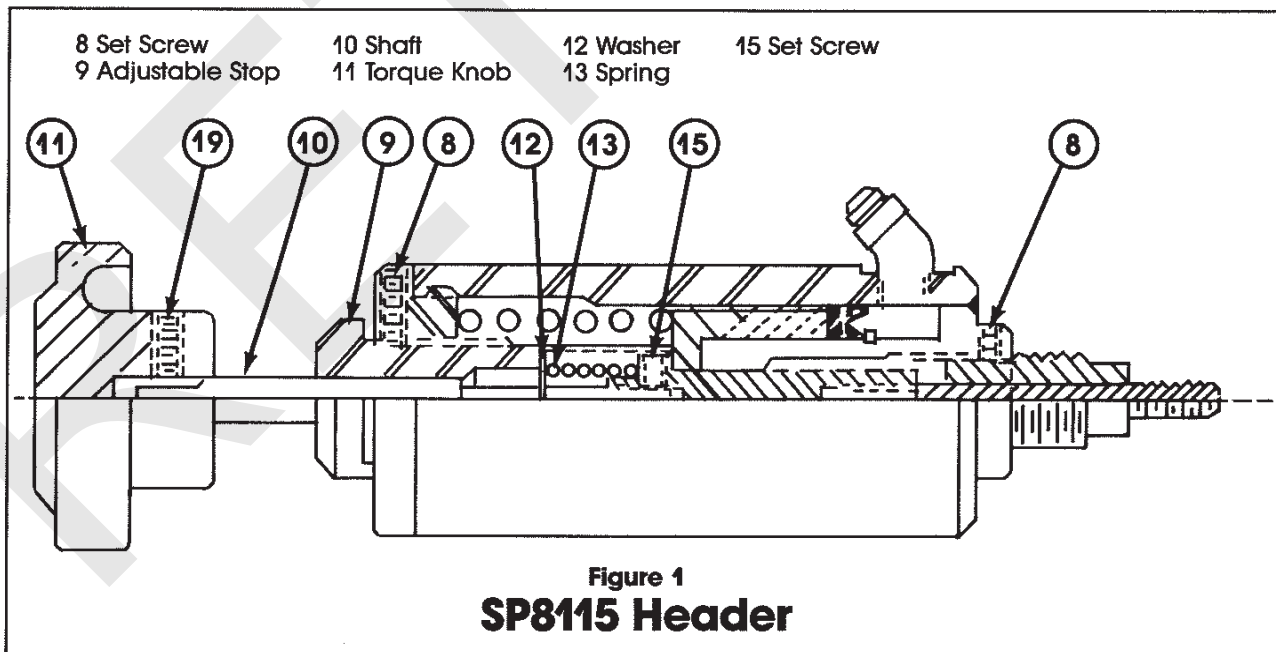

Figure 1
Pull-Up Stud and Anvil Adjustment or Replacement (Reference Figure 1.)
(Reference Figures 1 and 2)
1. Rotate the Adjustable Stop (9), Figure 1, clockwise into the body of the header to decrease pull-up. Rotating the Adjustable Stop counterclockwise increases the pull-up.